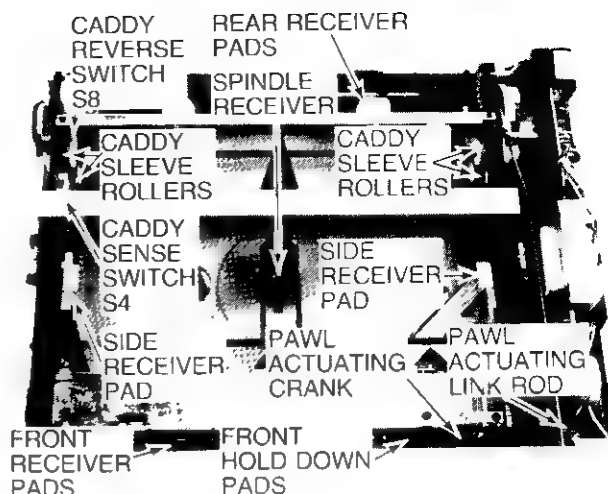

Fig. 5—Mechanism Identification
When the caddy sense switch, S4, is activated (closed), power is applied to the function motor. The caddy (sleeve) rollers begin to rotate, they grasp the caddy (sleeve) pulling it into the player. The caddy (sleeve) then activates (closes) the caddy reverse switch, S8. As caddy (sleeve) insertion nears completion the rear receiver pads are lowered, the caddy (sleeve) lock defeat tabs enter the end of the caddy (sleeve) on either side unlocking the spine tabs which hold the spine and Video Disc captive in the caddy (sleeve). At the same time the spine latch tabs, are pushed up and over the end of the spine and drop into their latching position holding the spine and Video Disc captive in the player. The spine sense switch, S5, is also activated (closed) at this time and the side indicator switch, S6, is either activated (closed) or left "off" (open) depending upon which side of the disc is being played. The function motor stops for approximately one (1) second before it begins running in the reverse mode (See Figs. 5 & 6).
As the caddy (sleeve), now empty, begins its ejection travel from the player—the caddy (sleeve) lock defeat tabs (spring loaded) pop up above the spine to the position necessary for performing their function during the "unload" process. The rear receiver pads rotate up to their normal position to support the disc and spine. The caddy (sleeve) reverse switch, S8, is deactivated (opens), however the function motor continues to run. When the caddy (sleeve) is released by the caddy rollers it must then be manually removed from the player—the caddy sense switch, S4, is deactivated (opens), the side receiver pads (spring loaded) raise up to support the spine, the front receiver pads (spring loaded) raise and the spine holddown pads (also spring loaded) lower to support the disc and spine. The last item to be released is the Pawl Actuating Crank, which is used to prevent the function gear actuating pawl from being tripped during the time a caddy (sleeve) is in the player (See Figs. 5 & 6).